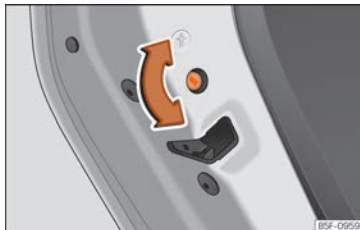

Fig. 93 Childproof lock on the left hand side door.
- With the door open, rotate the groove in the door using the ignition key, clockwise for the left hand side doors »» Fig. 93 and anti-clockwise for the right hand side doors.
- With the door open, rotate the groove in the door using the ignition key, anti-clockwise for the left hand side doors »» Fig. 93 and clockwise for the right hand side doors.